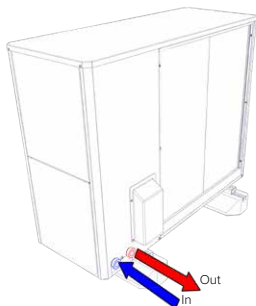

Fig. 27. Heat pump supply and return connections.
- 2) Connect the water return and supply of the heat pump as presented in Fig 27.